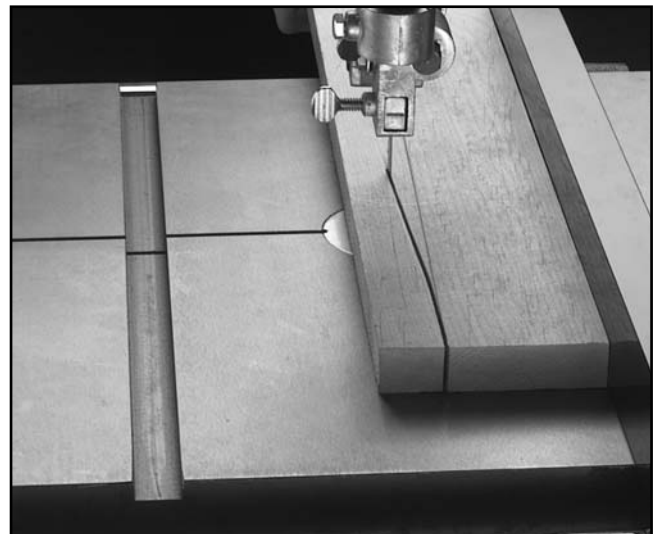

Figure 28. Blade leading away from line of cut.
Most bandsaw blades will not appear to cut straight when using the fence or miter gauge. This is called “lead.” (See **Figure 28**.) Lead occurs (1) if the blade tension is incorrect, (2) if the teeth are dull on one side, or (3) if the teeth are set heavier on one side of the blade than the other.